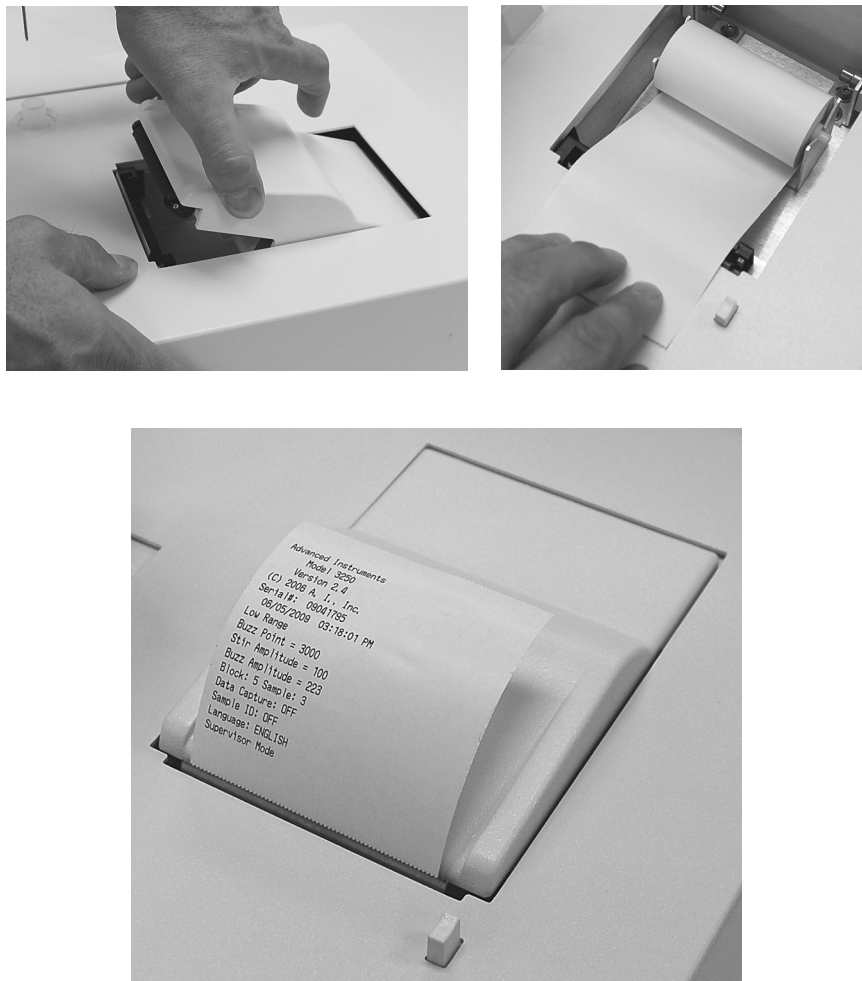

Figure 2: Load Printer Paper
Step 5 — Load printer paper (Figure 2)
4. Place the paper roll and roller into the V-shaped roller supports, as shown in the upper-right photo of Figure 2. Make sure the paper roll is oriented as shown, *feeding from the bottom of the roll*. When both ends of the roller are in proper position, the paper roll should be level. If the paper roll is not level, carefully reseal the roller between the roller guides.